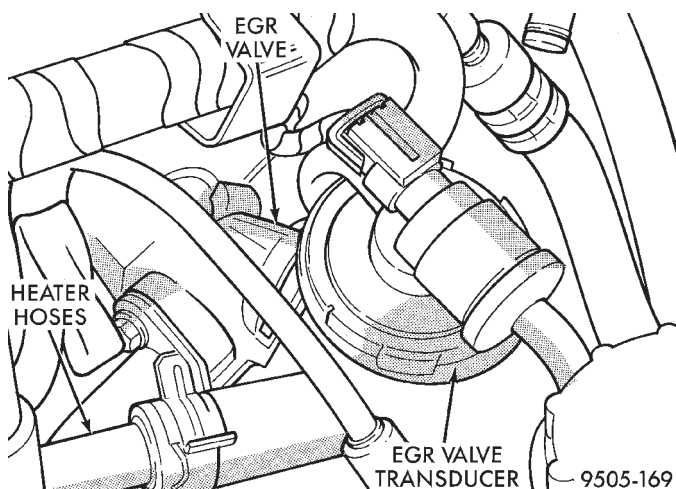

Fig. 96 EGR Valve Transducer Assembly
(6) Remove EGR valve transducer assembly and vacuum hoses (Fig. 96) from the EGR valve. **Valve removal is necessary for required clearance to remove power brake vacuum booster from vehicle and not damage transducer during removal.**
- (9) Install the EGR transducer assembly on the EGR valve (Fig. 96). Install the vehicle wiring harness connector (Fig. 96) on the EGR transducer, ensuring the retaining clip is fully engaged with transducer.